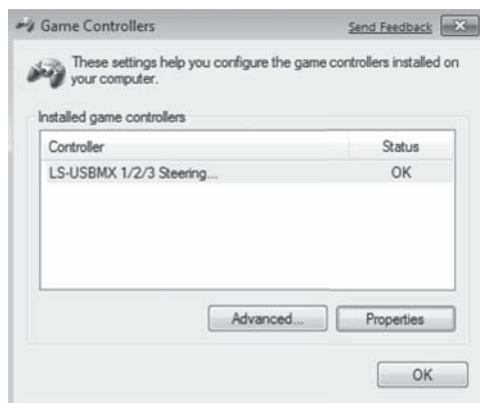

Fig. 7
- Insert the Software CD disk into the disk drive of your PC and launch setup.exe to install drivers on your PC. Go to the game controller settings in the control panel and Game Controllers window should appear on your PC (Fig. 7).